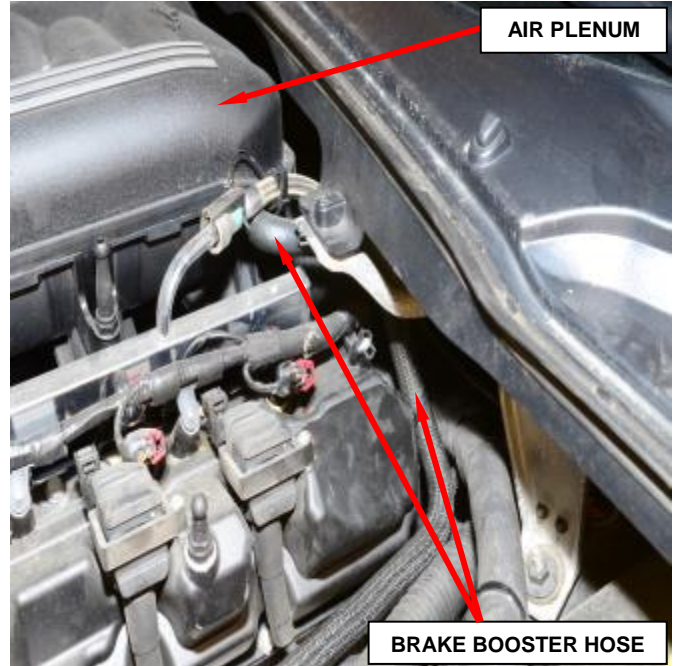

Figure 3 – Brake Booster Hose
5. Disconnect the brake booster hose retaining clip from the cylinder head cover and the hose from the air plenum. Position the hose to the side (Figure 3).
18. Connect the brake booster hose retaining clip to the cylinder head cover and the hose to the air plenum (Figure 3).